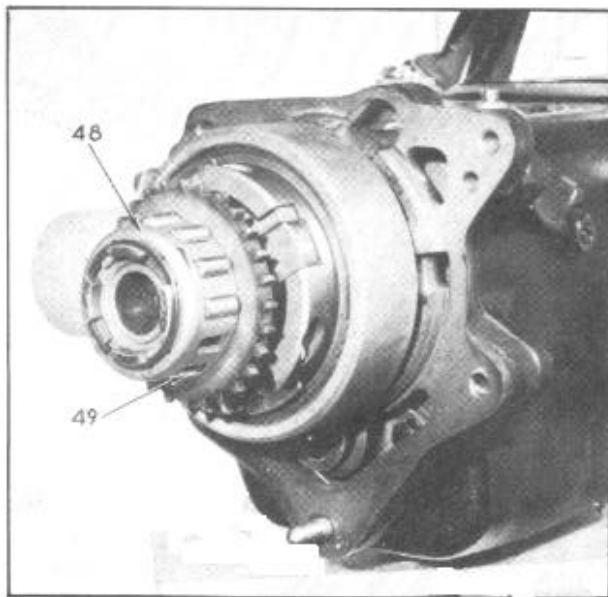

Figure 24--Removing Overdrive Case Assembly
3. Pull overdrive case assembly off rear end of transmission as shown in Figure 24. Overdrive main shaft (21),
4. Remove free-wheeling cam retaining bolt from end of transmission main shaft (39) and slide freewheeling cam assembly (48), Figure 24, off main shaft.